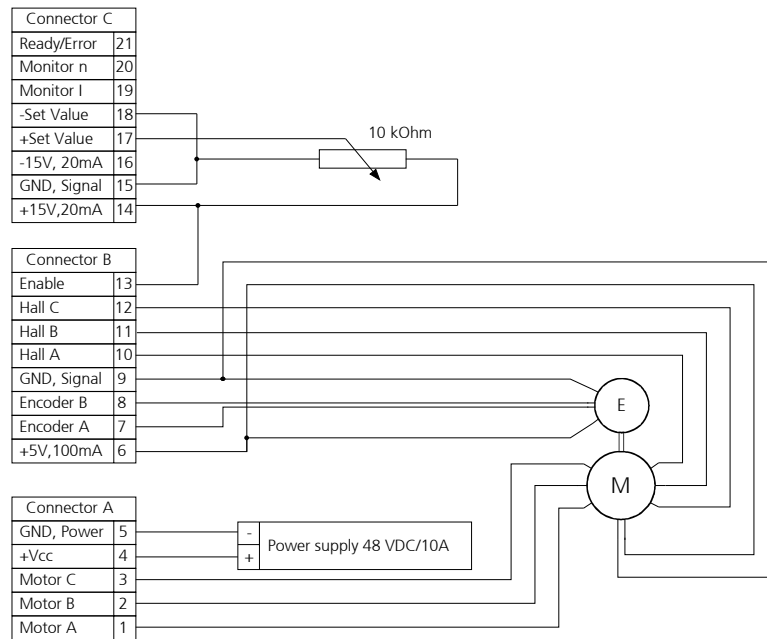

Figure 10
1. Connect the motor cables with an motor control unit (see Figure 10).